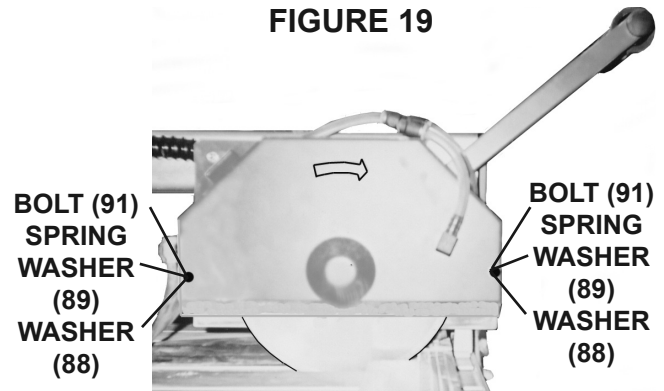

FIGURE 19
8. Carefully lower Blade Guard (12) back into its original position. Then secure Blade Guard in place using the Bolts (91), Spring Washers (89), and Washers (88). (See Figure 19.)